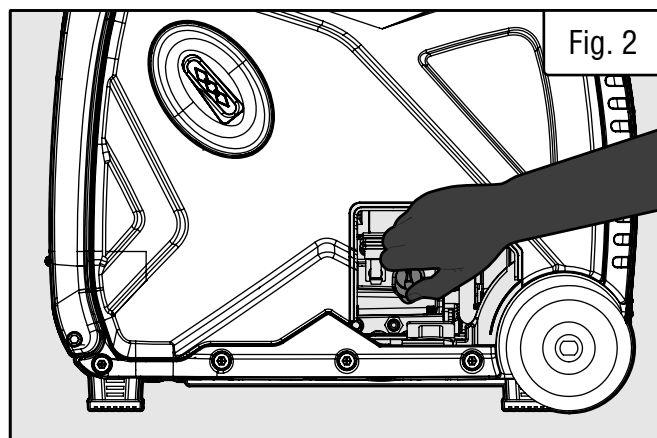

Fig. 2
2. Turn the oil access cover knob to the unlocked position, and remove the access cover from the side panel. Unscrew the oil dipstick from the engine (Fig. 2).